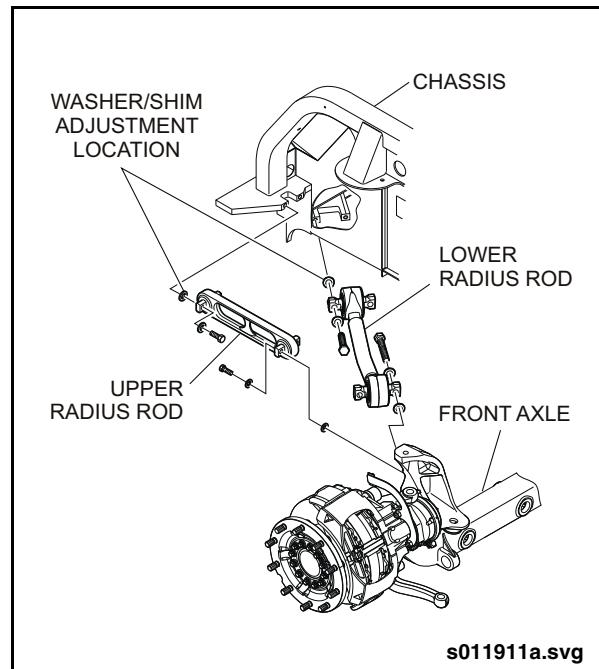

Fig. 3-3: Front Setback Angle Adjustment
5. Loosen radius rod to frame attaching bolts on the side requiring adjustment. See "Fig. 3-3: Front Setback Angle Adjustment" on page 8.